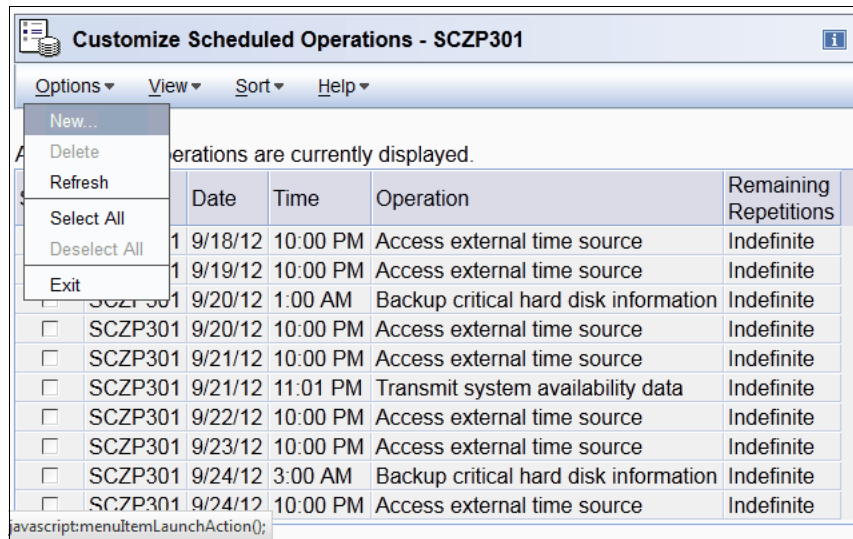

Figure 6-119 Customize Scheduled Operations task
The Customize Scheduled Operations window (Figure 6-119) displays scheduled operations already defined to the Support Element.
1. Go to the Customized Scheduled Operations window (Figure 6-119 on page 226).